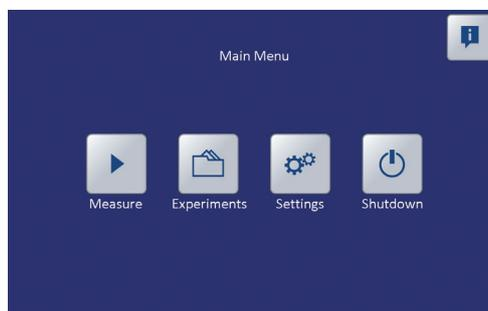
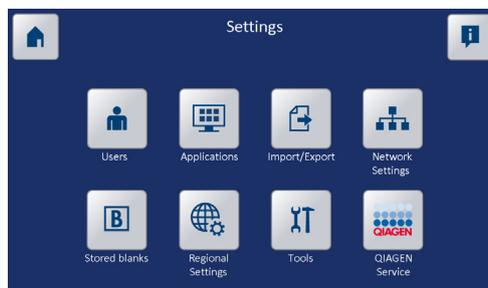

Figure 1. Main Menu.
Figure 2. Settings screen.
2. Tap the **Settings** button on the **Main Menu** screen (Figure 1) and then select **Users** (Figure 2).
2. Start a new experiment by tapping the **Measure** button (Figure 1).
1. Open the experiment list by tapping the **Experiments** button on the main menu (Figure 1).